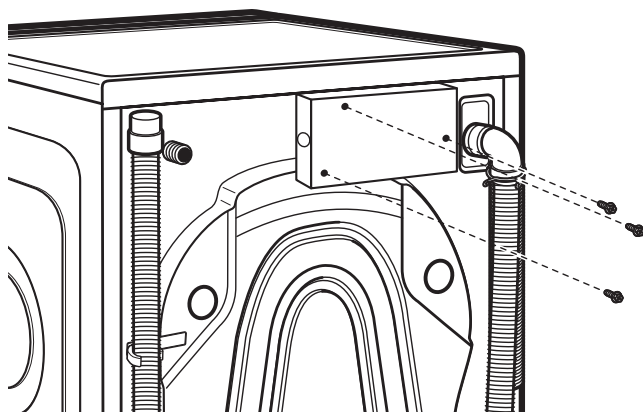

Figure 1 - Remove the cover plate.
2. Remove the terminal block cover from the back of the washer/dryer. See figure 1.